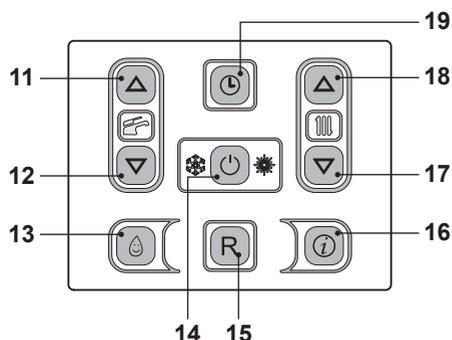
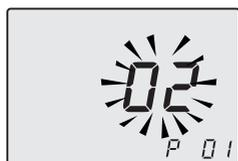
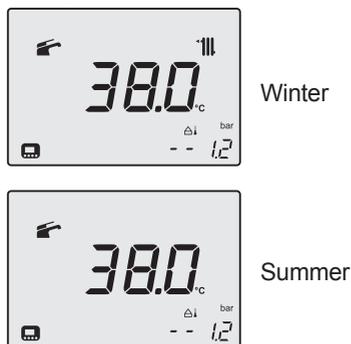

Fig. 9.21
Fig. 9.22
Fig. 9.27
- Enter in "programming mode" by pressing keys 14 - 17 - 18 (Fig. 9.21) for 10 seconds at the same time until the letters **P01** are displayed on the LCD display, indicating that "parameter 01" (Fig. 9.22) has been activated.
- Press keys 17 and 18 (Fig. 9.21) at the same time until the LCD display displays the letters **LP** that alternate with the heating water temperature value (e.g. **45**), indicating the activation of the "chimney sweep function" at minimum output (Fig. 9.23).
- By pressing 18 (Fig. 9.21) it is possible to
- Press keys 14 - 17 - 18 (Fig. 9.21) at the same time again to exit the "chimney sweep mode" and return to the previously set boiler status (Fig. 9.27).